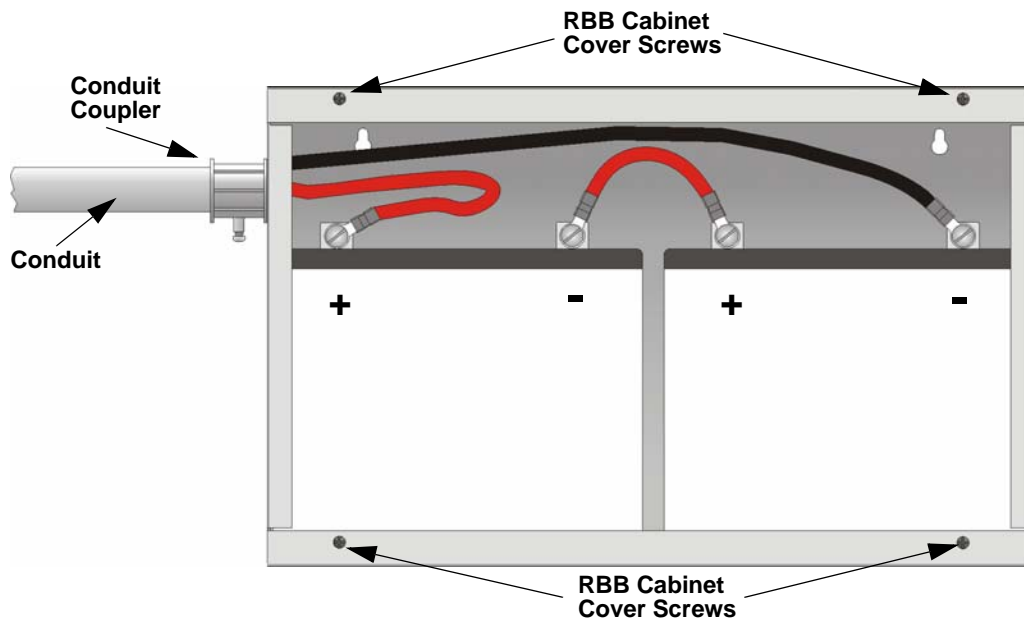

Figure 4-6 Battery Connections in the RBB Cabinet
3. Run extended battery cable from control panel cabinet through conduit to RBB cabinet. See Figure 4-6.
Note: Figure 4-6 is an example of how the wire connections can be routed. However, any other cabinet knock-
4. Connect battery leads to the backup battery terminals. See Figure 4-6.
5. Insert the RBB cover screws into the cover mounting holes. See Figure 4-6.